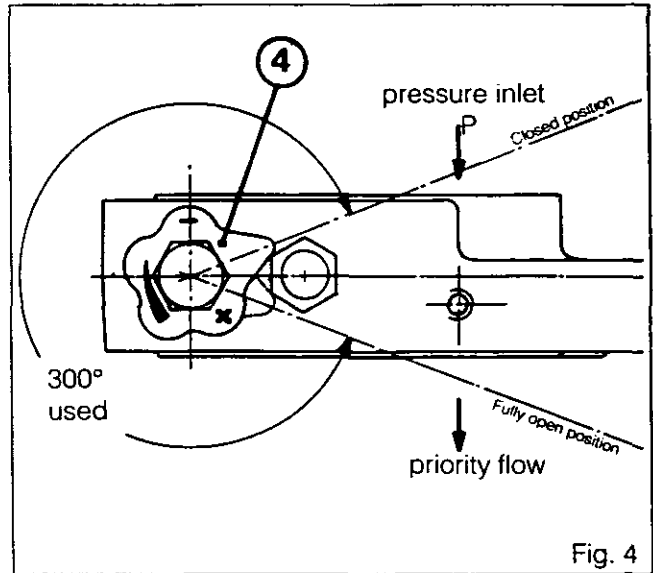
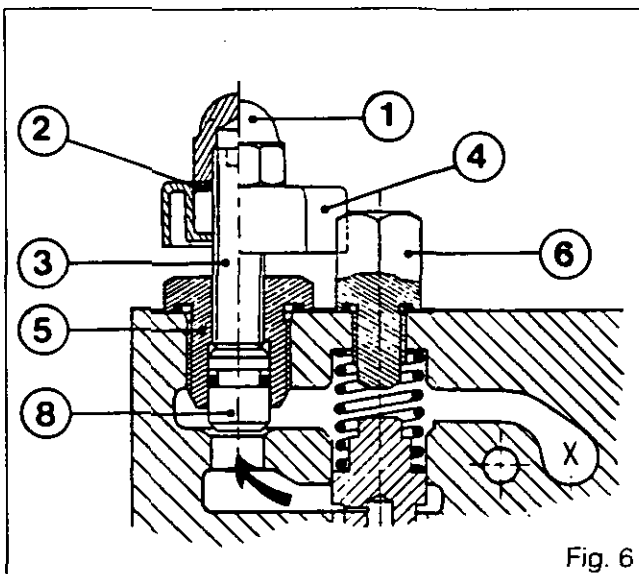

Fig. 4
Fig. 6
For work requiring a regulated flow, the divider enables a variable flow to be obtained, by adjusting the knob (4) between the minimum and maximum positions (Fig. 4).
**Adjustment (Fig. 6)**
1. Remove the stop screw (6), the lock nut (1) and the washer (2).
2. Unscrew and remove the knob (4).
3. Without forcing it, tighten the screw (3) so that the valve (8) is in contact with its seat.
4. Screw in the knob so that it is in contact with the cap (5).
6. Screw in and tighten the stop screw (6) to a torque of 20 Nm.
7. Place the knob in the closed position (Fig. 4).
8. Fit the washer (2) and tighten the locknut (1) to a torque of 30-40 Nm.